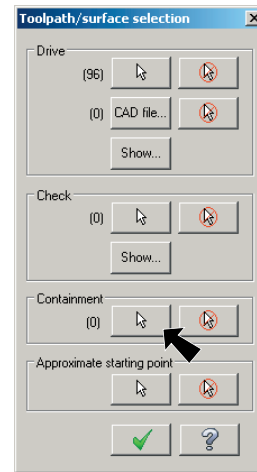

Fig. 6
Step 5. Click **Containment Select** button in the Toolpath/surface selection dialog box, **Fig. 6**.
Step 10. Click OK  in the Toolpath/surface selection dialog box, **Fig. 6**.